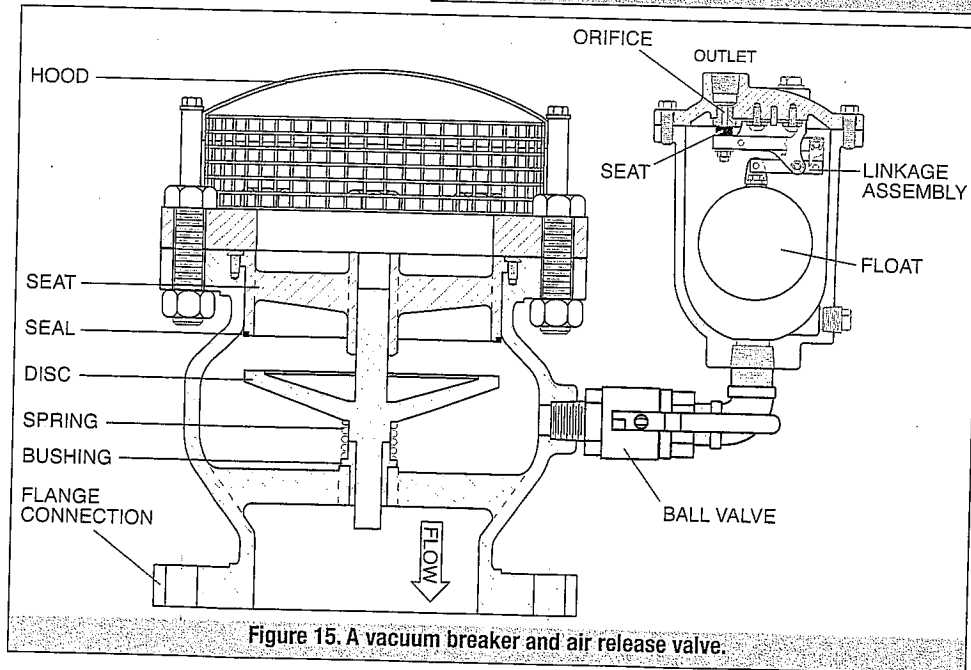

Figure 15. A vacuum breaker and air release valve.
Another type of air valve used at critical points in the pipeline where column separation may occur is a vacuum breaker (VB) (see Figure 15).